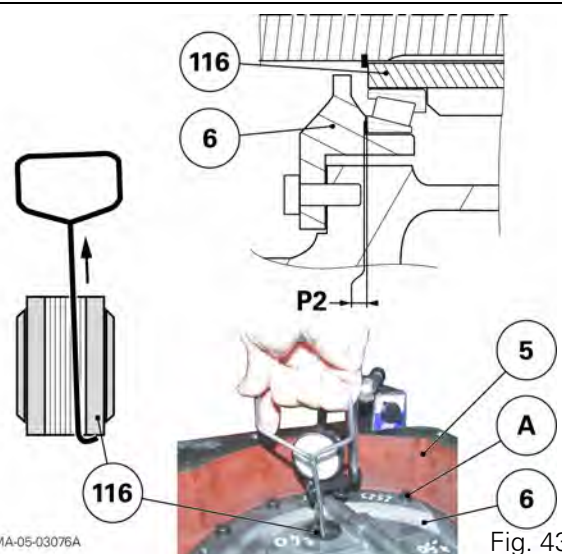

Fig. 43
114. Place the dial gauge feeler pin on the reverse transfer pinion (Fig. 43).
115. Using a makeshift bent rod (see Fig. 43), pull the pinion to correctly seat the bearings.
117. Remove the screws (A) and the cover (6) (Fig. 43).